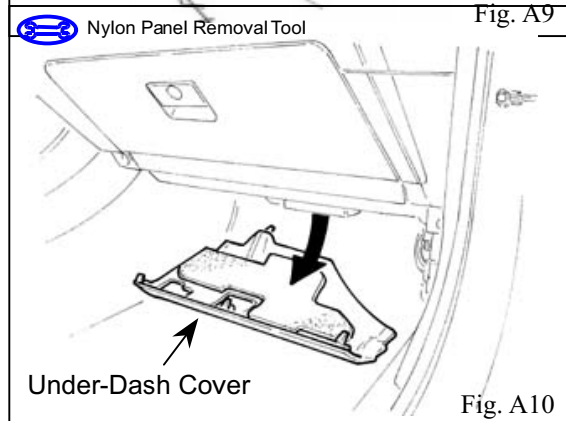

Fig. A10
12. Remove the under-dash cover. (Fig. A10)